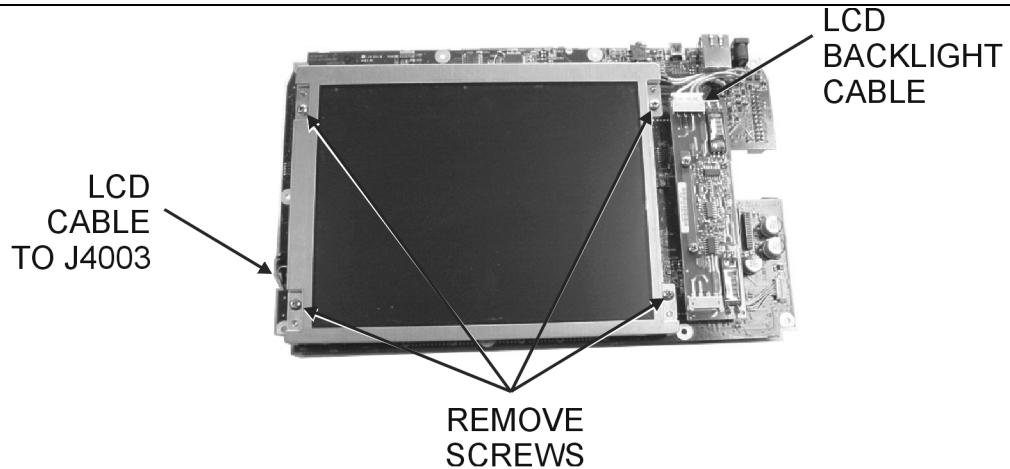

Figure 18. LCD Assembly Replacement
3. Use a Phillips screw driver to remove the four screws securing the LCD to the Main PCB assembly (Figure 18).